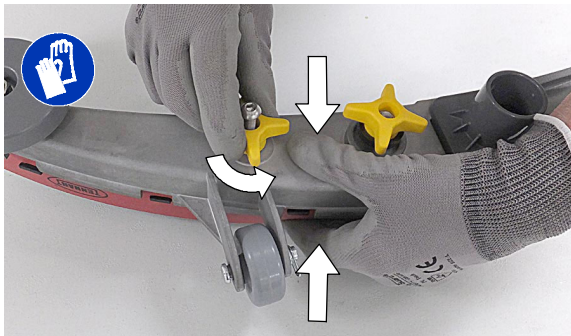

FIG. 123
2. Fully loosen the two outside knobs on squeegee assembly. This will separate the spring loaded blade retainer from squeegee frame (Figure 123). To loosen the knobs quickly, squeeze the blade retainer and squeegee frame together.